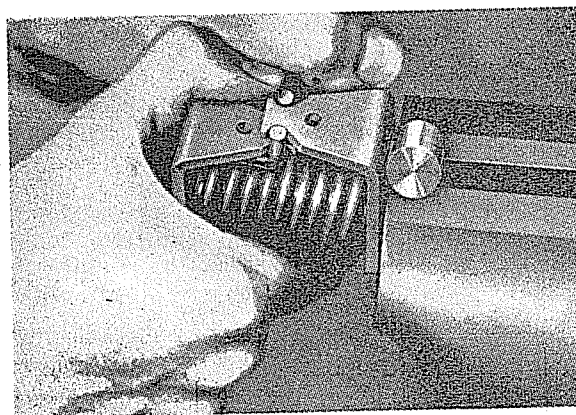

Fig. 59
- (12) Mount in vice carefully as shown in Figure 59.